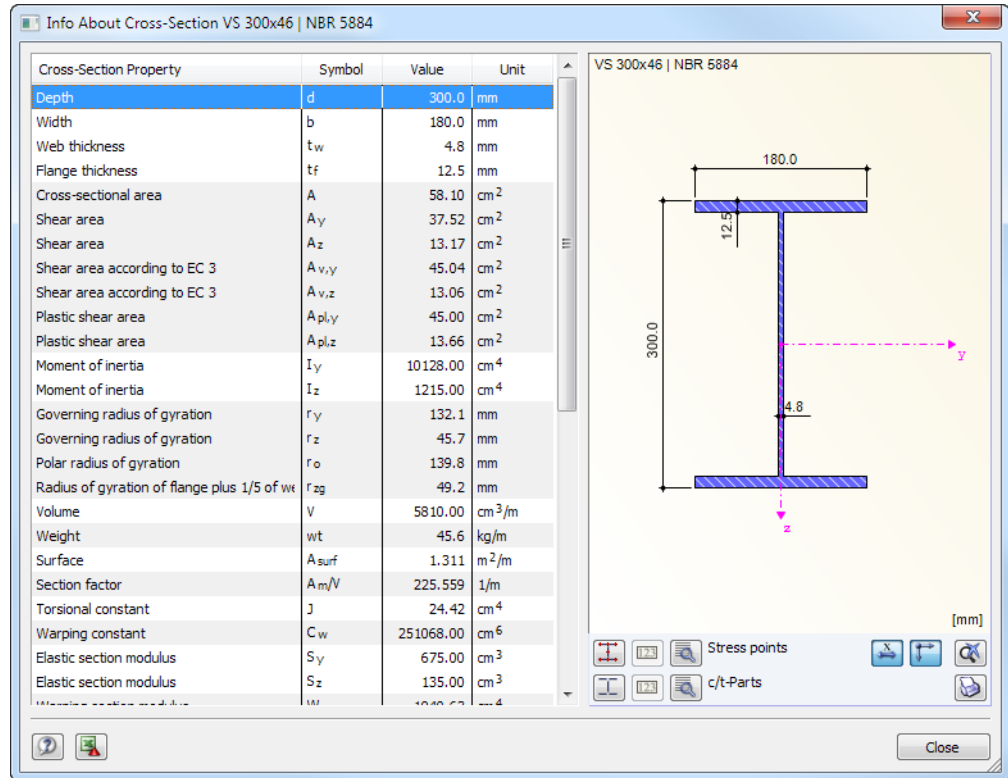

Figure 2.10: Dialog box *Info About Cross-Section*
- The stress points including their numbering can be checked graphically: Select the cross-section in Window 1.3 and click the [Info] button. The dialog box shown in Figure 2.10 appears.
In Window 1.4, you can define lateral restraints for members. In RF-/STEEL NBR, this kind of support acts perpendicular to the z-axis of the cross-section (the minor axis, see Figure 2.10). Thus, you can manipulate the effective lengths of the members for the stability design concerning flexural buckling and lateral-torsional buckling.